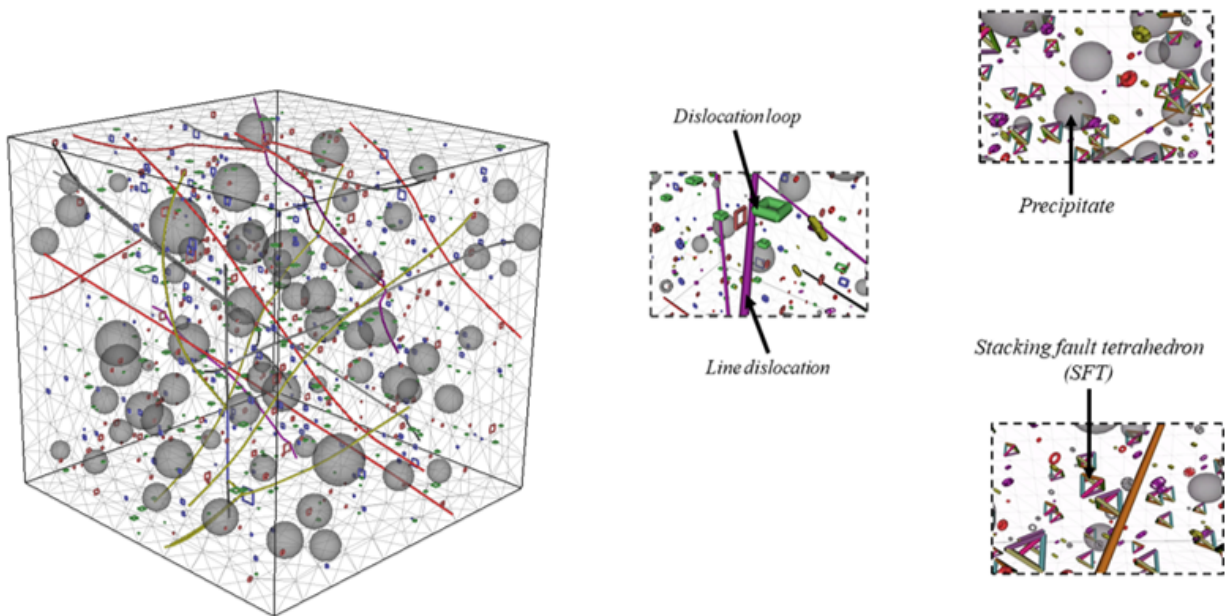

Fig. 6.40: RVE of tokamak component with irradiation-induced micro/nano structural defects.
In MoDELlib, DD models are employed for fusion relevant materials such as iron (Fe), tungsten (W) and copper (Cu). Fig. 6.40 shows the RVE with irradiation-induced defects with log normal probability distribution which serves as the